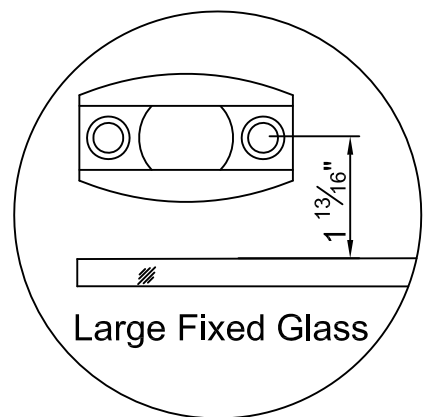

Fig. 21
21. Position the Sliding Door Track Divider (8) into position as seen in Fig.21 and mark the 2 shower base hole positions.
**Note:** In Fig.21 the hole locations for attaching sliding door track divider should be 1 13/16" from edge of Large Fixed Glass (3).
See Fig.21 for details.